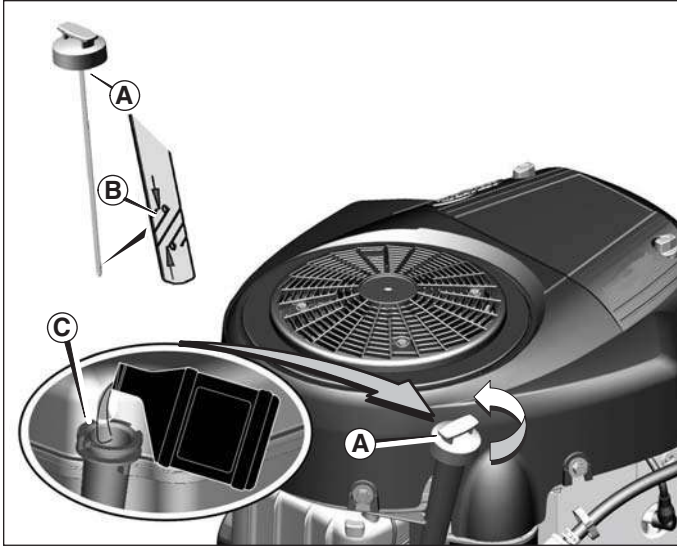

Figure 5
1. Remove the dipstick (A, Figure 5) and wipe with a clean cloth.
3. Remove the dipstick and check the oil level. It should be at the FULL mark (B) on the dipstick.
4. If low, add oil slowly into the engine oil fill (C). **Do not overfill.** After adding oil, wait one minute and then recheck the oil level.